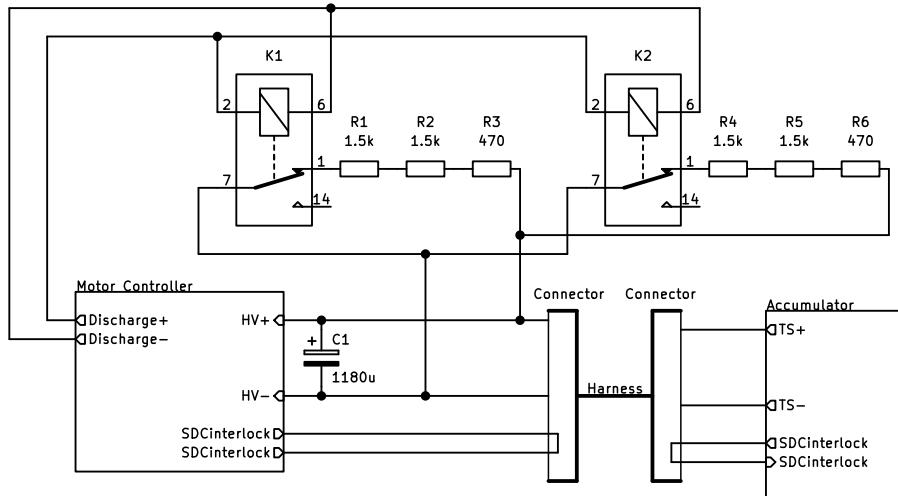

Figure 18: Discharge circuit of one MC.
Figure 18: Discharge circuit of one MC shows a simplified discharge circuitry. Discharge resistors are placed in MCs right next to the only capacity that provides a storage for potentially dangerous charge/energy in TS. If high voltage (HV) cable is disconnected on either side, the SDC opens due to the interlocks and both AIRs open. Because there is no output capacitance in ACP there is no way the power could be on ACP output HV connector.